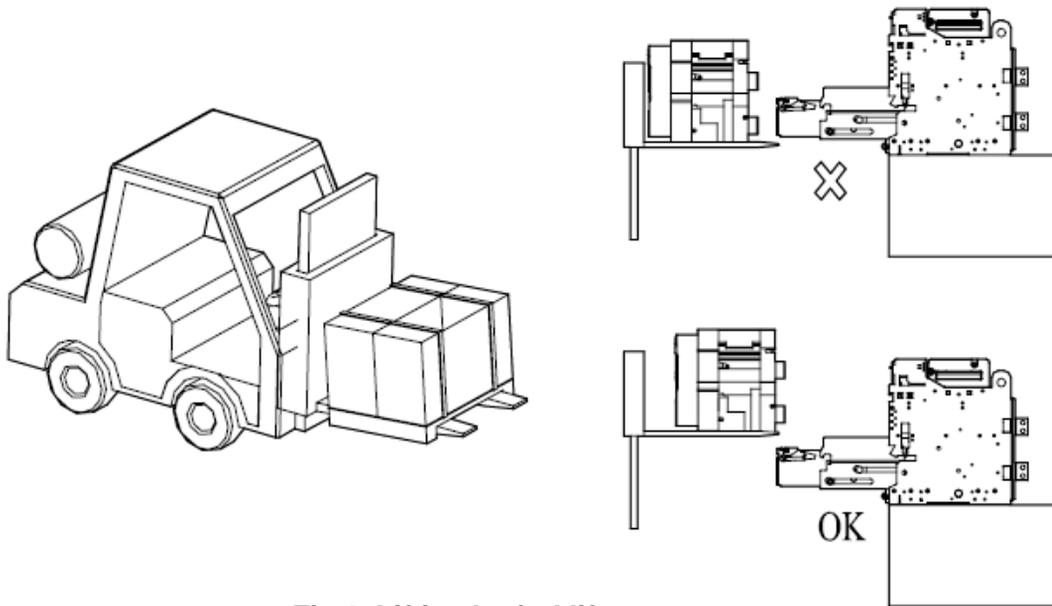

Fig 1. Lifting by forklift
1. This breaker and cradle are designed to move easily by overhead lifting devices such as hoisters. You can use lifting hooks which is optional to move them without difficulty. All the carrying devices should be suited to the product's permissible weight which is presented in Table.1. In case of using forklift, refer to figure.1.
2. When lifting products with forklift, be careful with the bottom plane not to exceed the rear side of products. (Refer to fig.1)